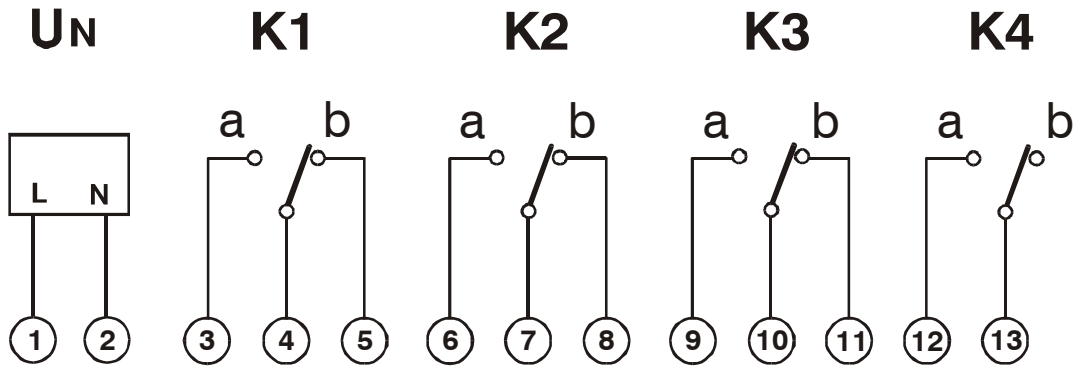

Figure 3 Wiring diagram-16A change over contacts
- Figure 3 Wiring diagram-16A change over contacts 5